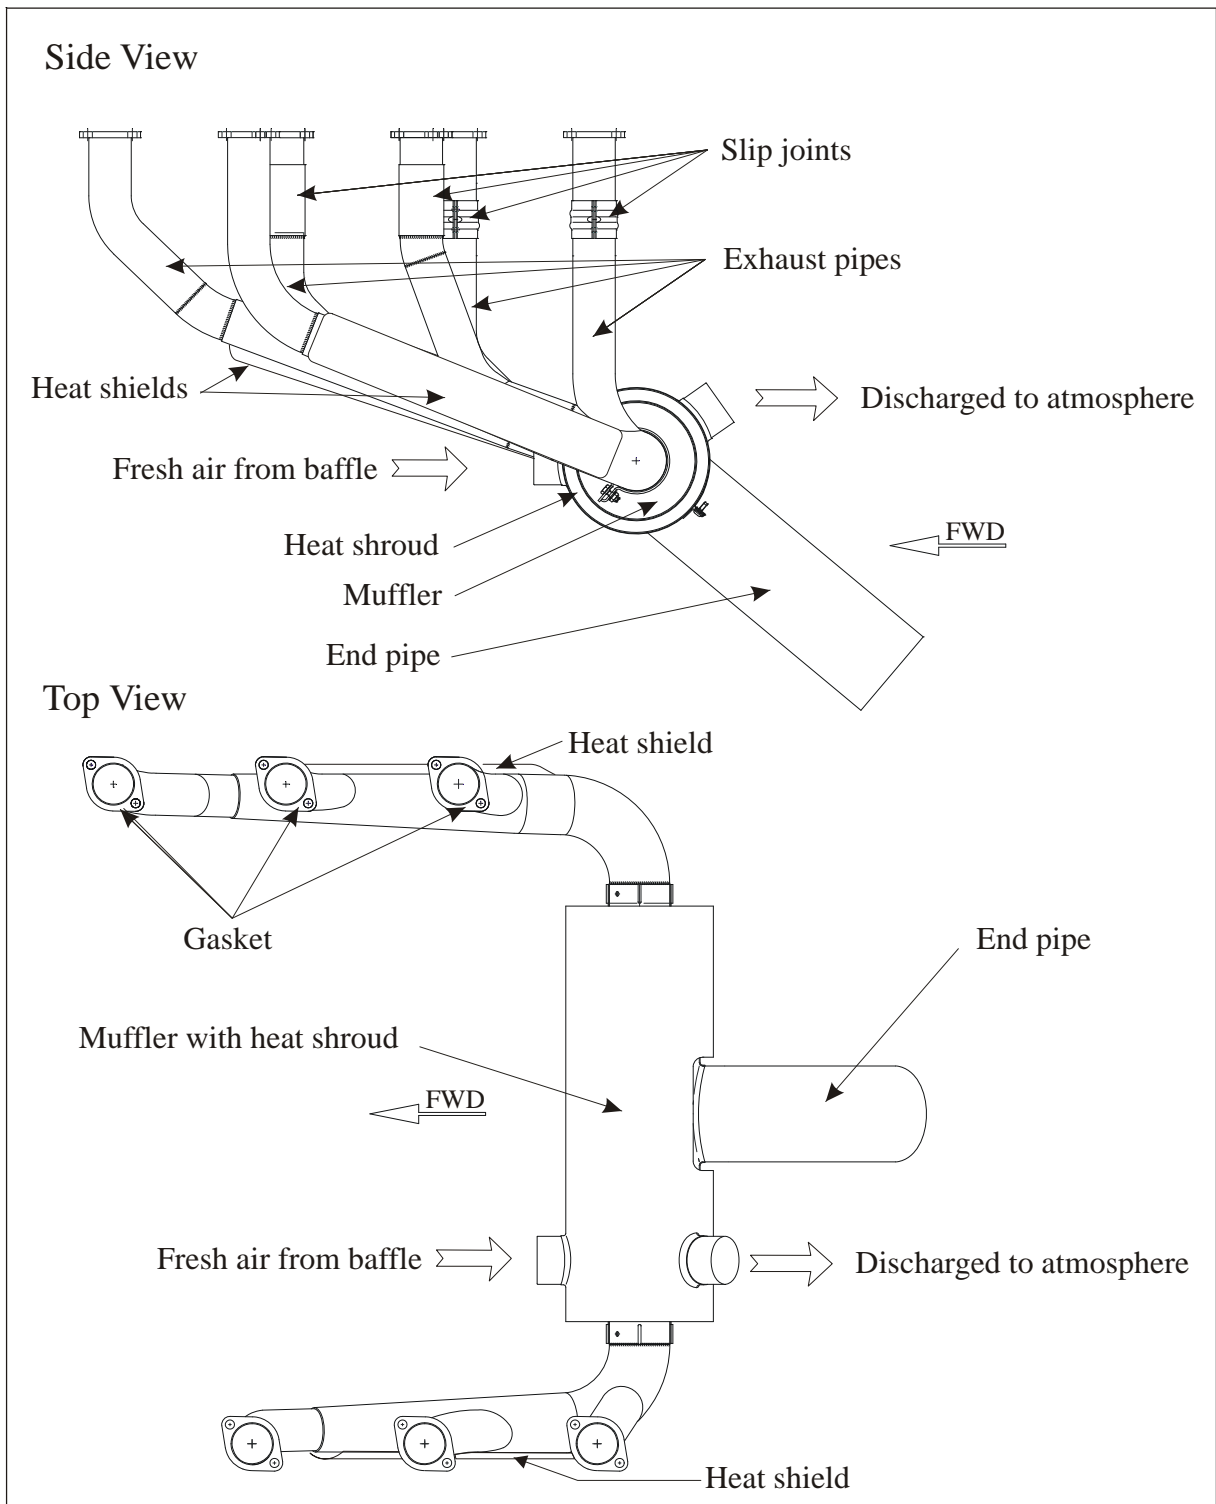

Figure 1
The tubing (8) of the MAP transducer (9) is routed from the module through a bulkead fitting (7) in the firewall to the engine (see also Figure 1).
The EXTRA 300SC is generally equipped with a Gomolzig 6 in 1 exhaust system (refer to figure 1) with integrated silencer (muffler).